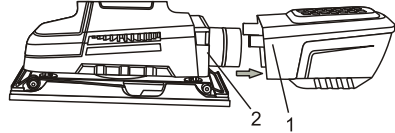

Fig. 7
1. Squeeze the sides of the dust box (1) and pull it away from the rear of the sander (2) (Fig. 7).